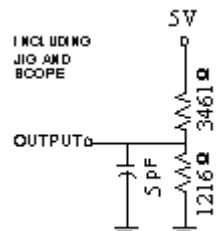

FIGURE 1B
6. Transition is measured $\pm 500\text{mV}$ from steady state with $C_L = 5\text{pF}$ as shown in Figure 1B. The parameter is guaranteed but not 100% tested.
10. Transition is measured $\pm 500\text{mV}$ from steady state with $C_L = 5\text{pF}$ as shown in Figure 1B. The parameter is guaranteed but not 100% tested.